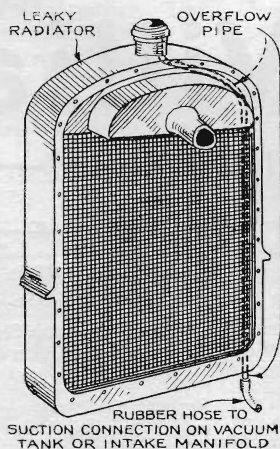

Fig. 4. How air pressure is used to stop leaky radiator.
**M**ANY methods have been proposed for emergency radiator repairs. A most ingenious one is shown in Fig. 4. Instead of attempting to repair the leak, atmospheric pressure is utilized to keep the water from
Each month we award \$10 for the best idea sent in for motorists. This month's prize goes to R. H. Moore, Lombard, Ill. (Fig. 4). Contributions are requested from all automobile mechanics and if published will be paid for at regular space rates.